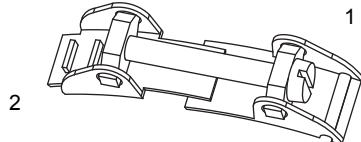

Fig. 6.2: Clasp
- Make sure that part (2) of the clasp is on top of part (1) (see Fig. 6.2). The hooks of part (2) must be on the outer side of the clasp.
- Place the transducer shoe on the pipe. Hold clasp and transducer shoe with one hand while pushing the tension strap through parts (2) and (1) of the clasp (see Fig. 6.2).